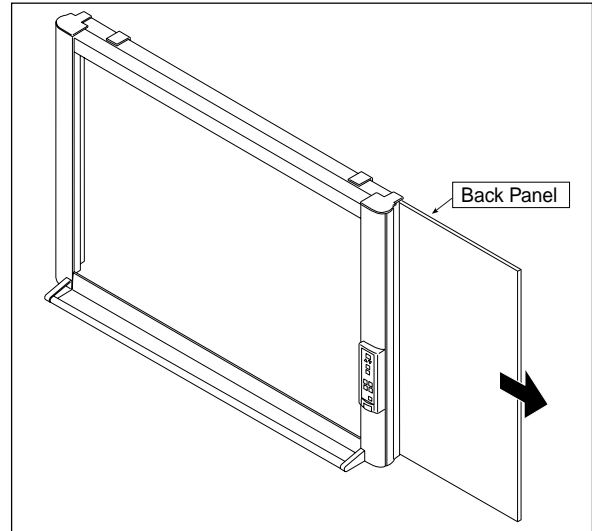

Fig. 2
2. Remove the Back Panel as shown in Fig. 2.